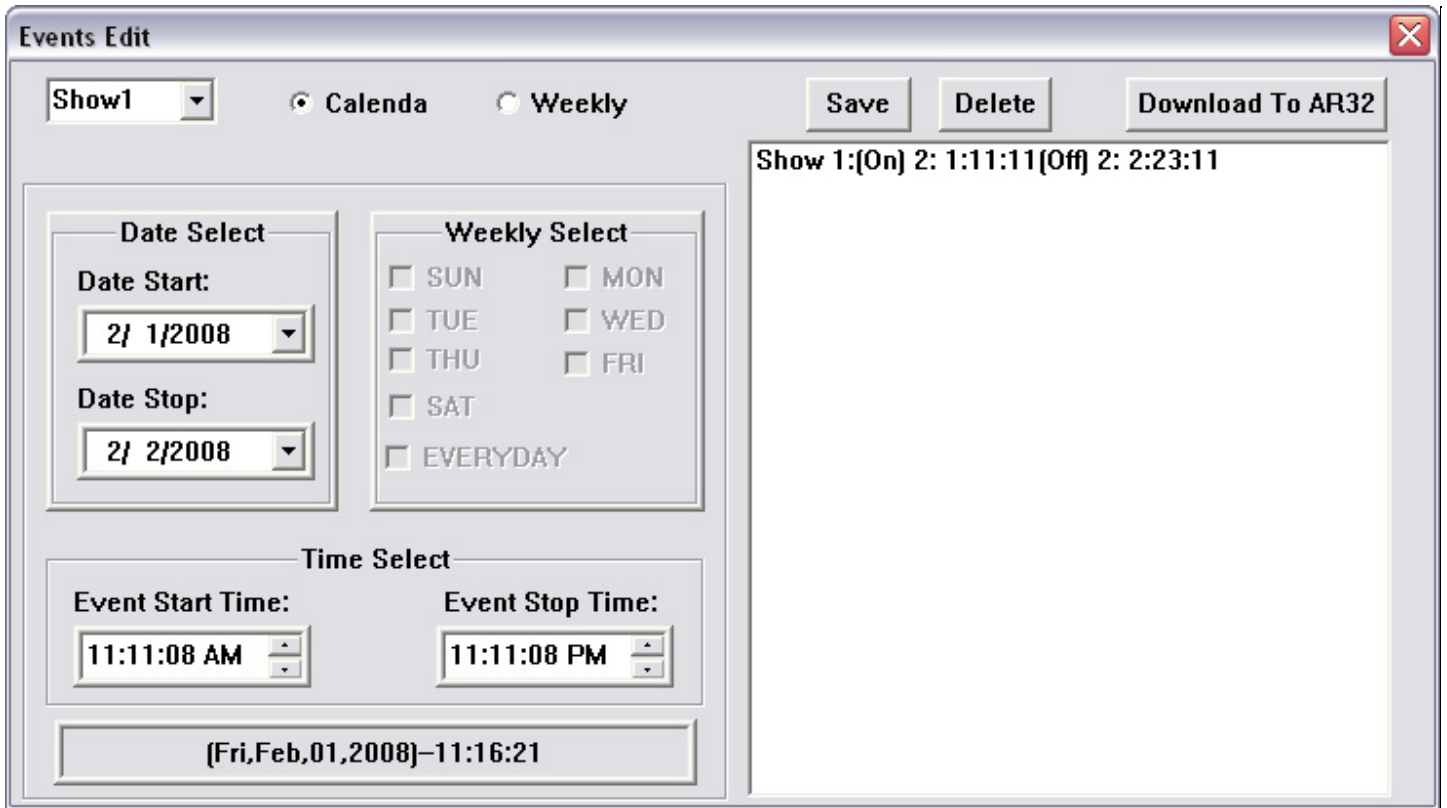

Figure 29
3. Select the [Save] button. Saved events will display in the window on the right side of the screen (Figure 29).